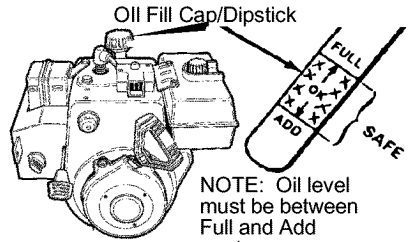

Figure 12
3. If necessary, add oil until the oil reaches the **FULL** mark on the oil fill cap/dipstick (see Figure 12). Do not add too much oil.